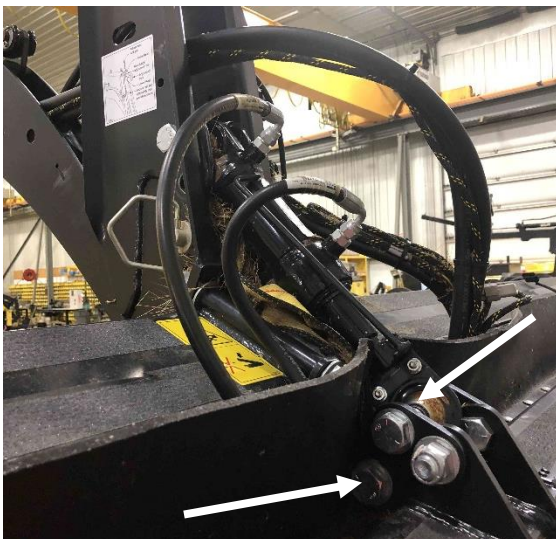

Figure 31
3. Attach a suitable lifting device to the subframe. Remove the bolts that retain the tilt cylinder and the safety strap to the subframe. Figure 31